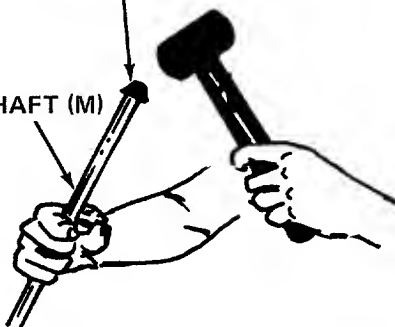

FIGURE 3
2. Using a raw hide or plastic hammer, tap one axle push cap (I) on one end of axle shaft (M). See figure 3.